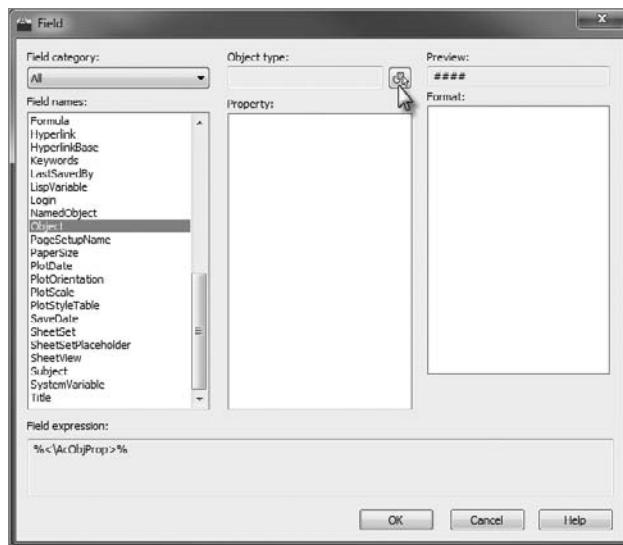

FIGURE 9.26 Choose Object from the Field Names list and click the Select Object button in the Field dialog box.
7. The Field dialog box opens. In the Field Names column, choose Object, and click the Select Object button (see Figure 9.26). The dialog box closes so that you can pick the object that the field will reference.